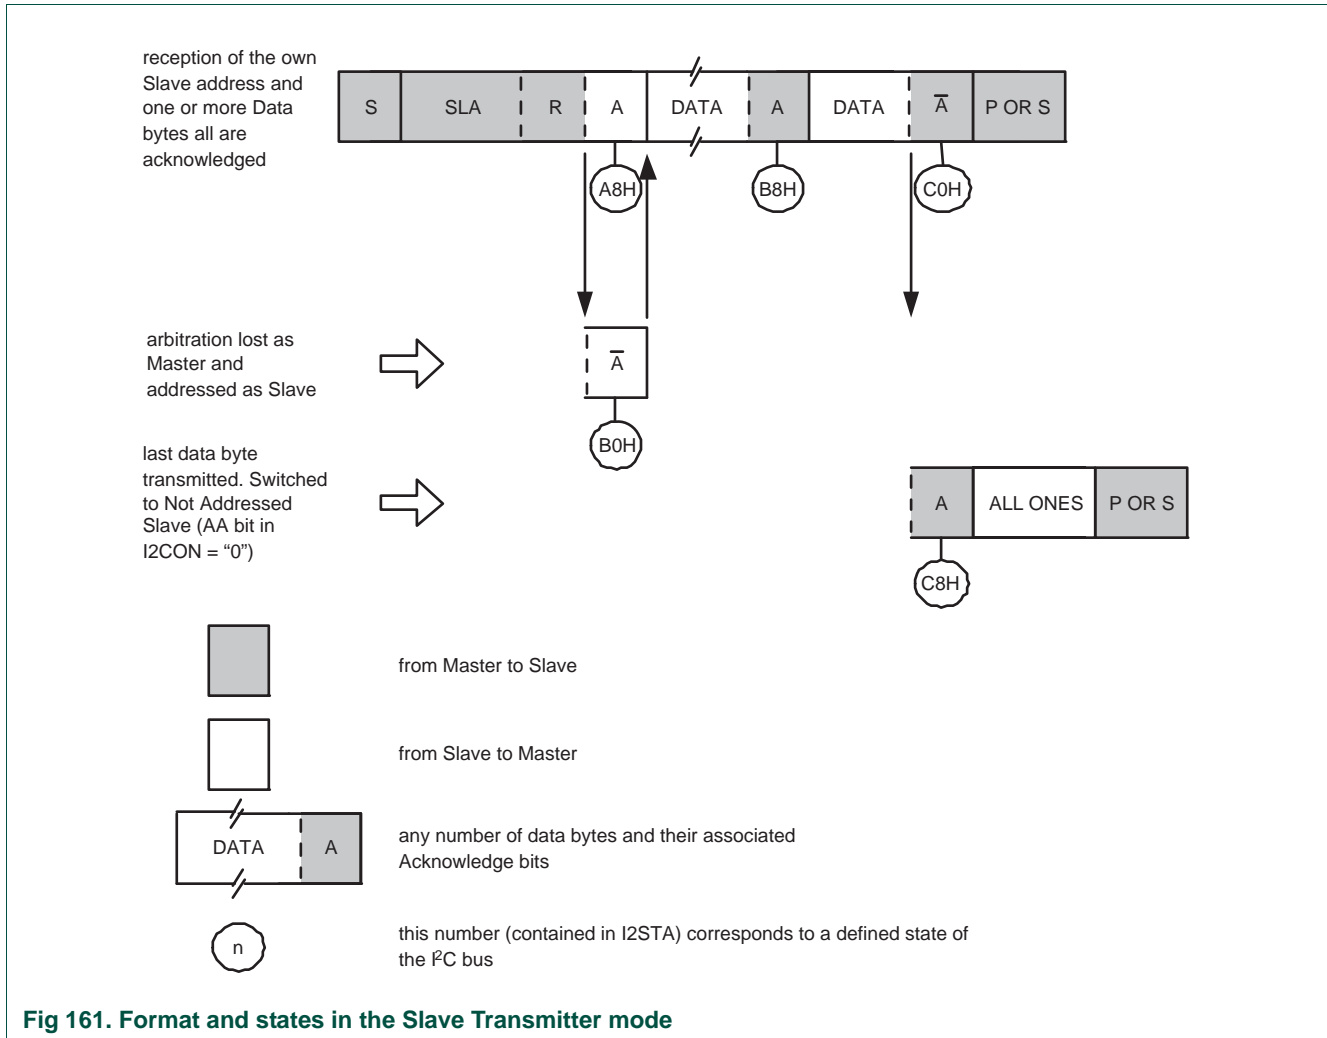

Fig 161. Format and states in the Slave Transmitter mode
In the slave transmitter mode, a number of data bytes are transmitted to a master receiver (see Figure 161). Data transfer is initialized as in the slave receiver mode. When ADR and CON have been initialized, the I2C block waits until it is addressed by its own slave address followed by the data direction bit which must be “1” (R) for the I2C block to operate in the slave transmitter mode. After its own slave address and the R bit have been received, the serial interrupt flag (SI) is set and a valid status code can be read from STAT. This status code is used to vector to a state service routine, and the appropriate action to be taken for each of these status codes is detailed in Table 967. The slave transmitter mode may also be entered if arbitration is lost while the I2C block is in the master mode (see state 0xB0).